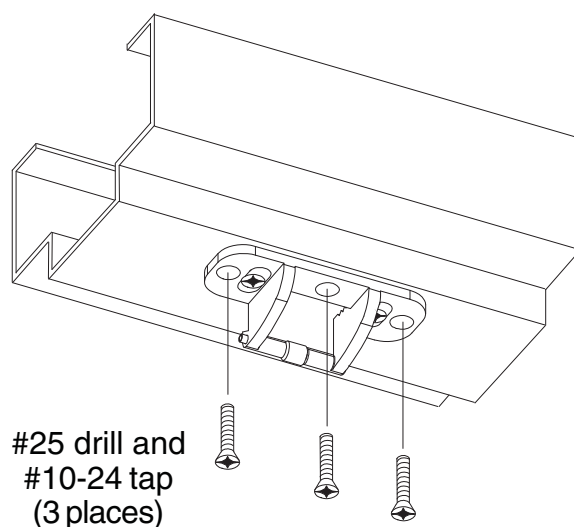

Figure 3-2
- 3.3. Install remaining three screws (see Figure 3-2).